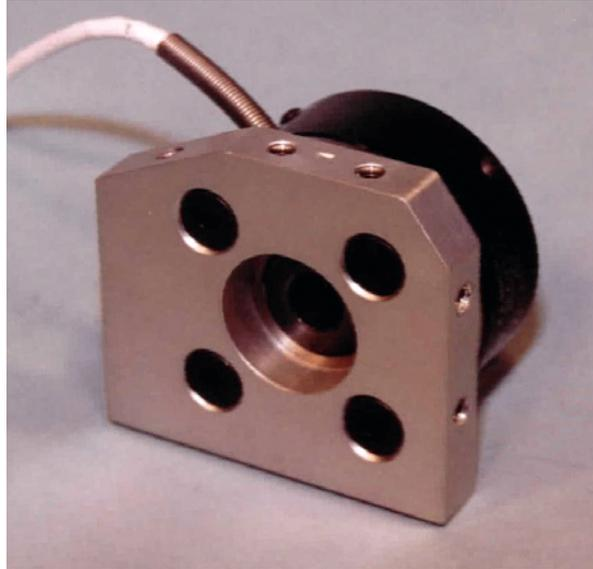

Figure 11.3- Orientation of Load Cell on plate
1. Attach the Left Load Cell Mounting Plate (T1PLM210) to the Left Acetabulum Load Cell (T1INM340) using four 1/4"-20 x 5/8" FHSCS-NP {5/32}. Orient the load cell wiring to the mounting plate as shown in **Figure 11.3**.